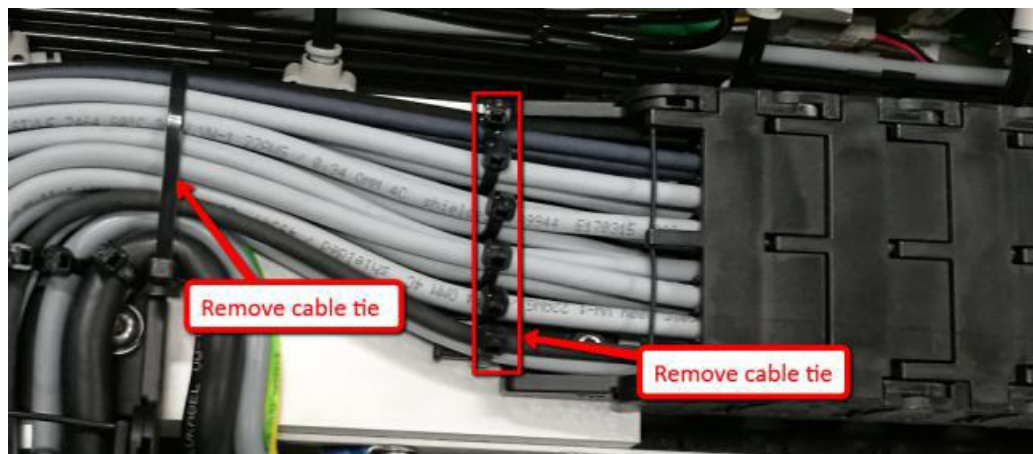

Figure 14
16. Remove necessary cable ties as shown in Figure 14.